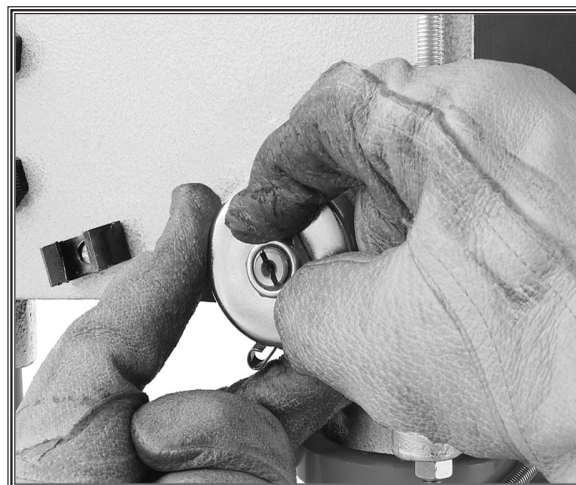

Figure 27. Loosening cover nut.
3. While holding the spring lock cover against the side of the headstock so the cover stays splined with the locking lug; loosen the cover nut approximately $\frac{1}{4}$ " (see Figure 27).